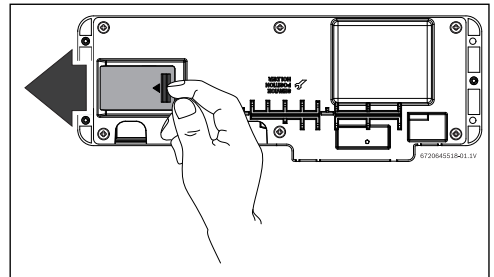

Fig. 2 Control unit rear
- ▶ Remove rear hatch from control unit to expose circuit board electrical connections. (Fig. 2).